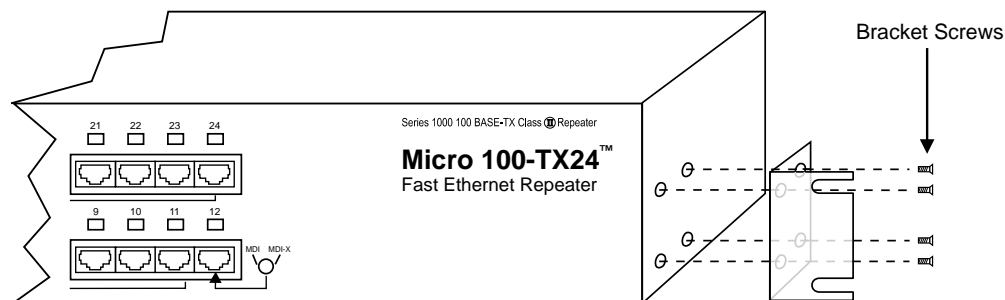

Figure 3-1: Attaching the Mounting Brackets
2. Position the bracket as shown in Figure 3-1, and secure it with the smaller bracket screws. Then attach the remaining bracket to the other side of the repeater.